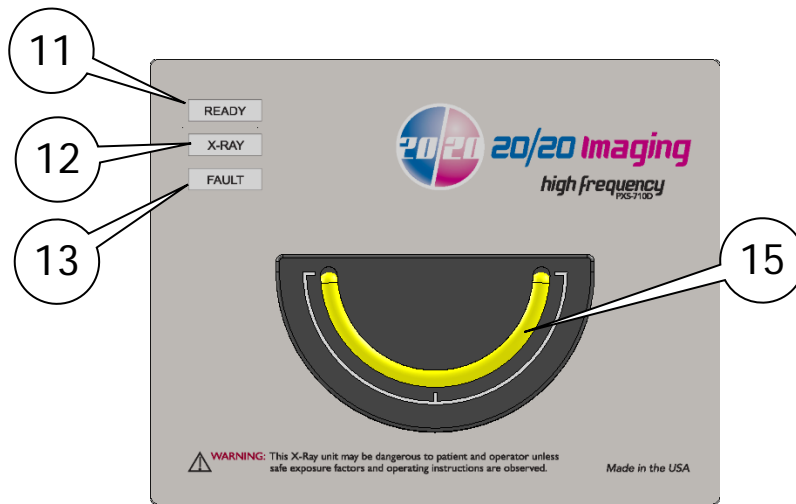

Figure 3.3
- 2) Fault Indicator on optional Remote Control SR-115-RC. A Fault Code is also displayed in the kVp display to indicate the fault. Ref Fig 3.3 & Table 5.2